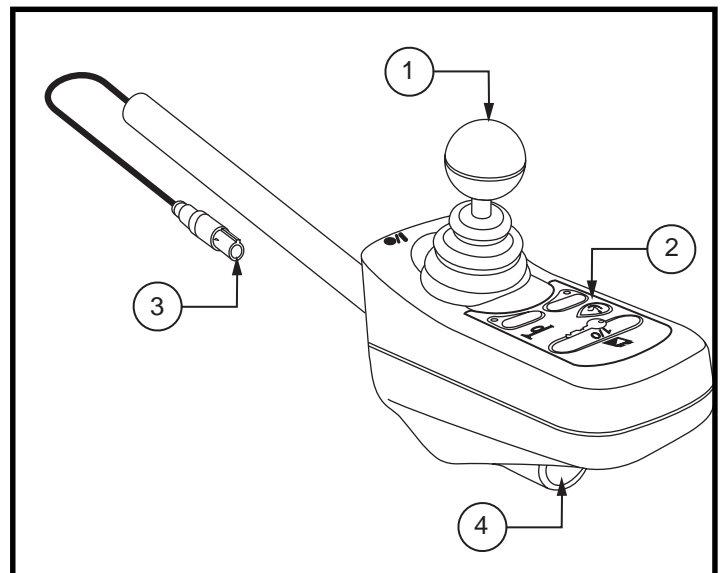

Figure 22. Europa Master Remote
- Europa master remote (see figure 22)